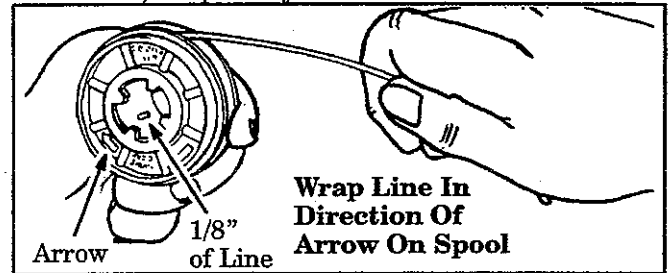

Figure 15
- b. Hold spool as shown in Figure 15 .
- c. Insert 1/16 to 1/8 inch of line through the hole in the inner rim of the spool. Figure 15 . Allow no more than 1/8 inch of line to extend beyond the inner rim of the spool to avoid interference with the drive gear.
- d. Wrap line evenly and firmly in the direction indicated by the arrow on the spool. Figure 15 . To ensure proper line advance, avoid crossover or crisscrossing the line.